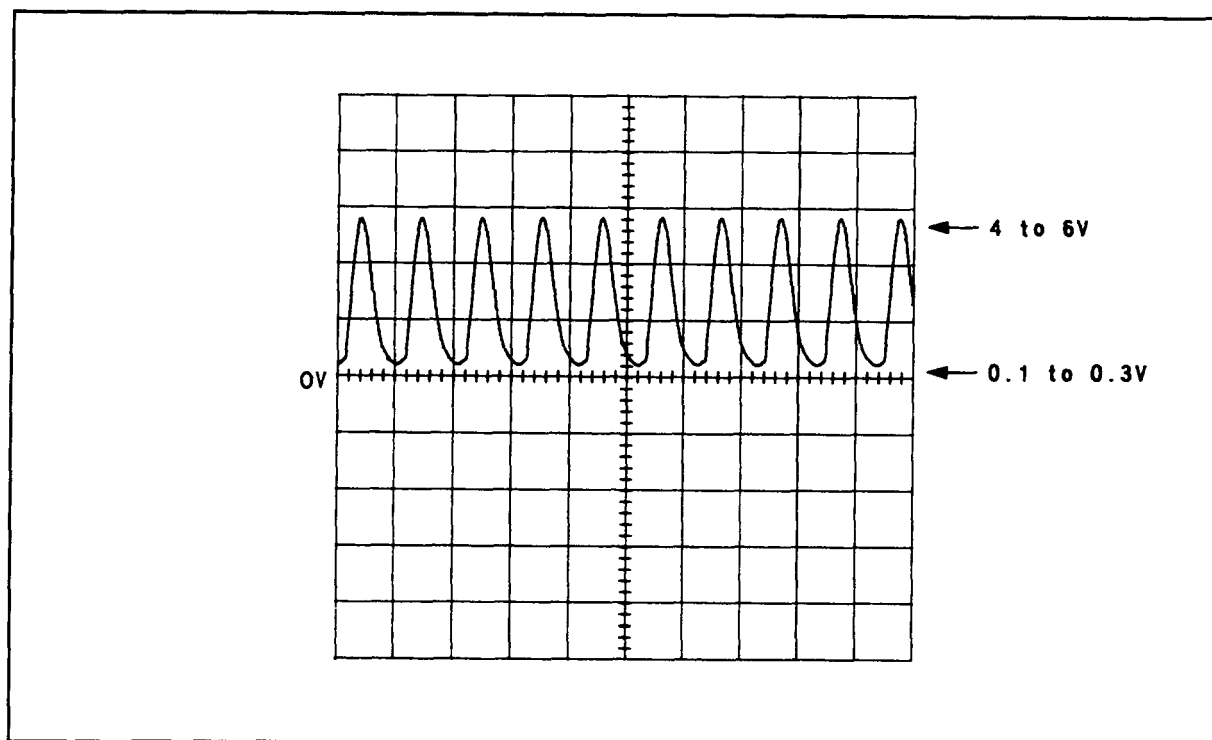

Figure 8F-48. Waveform for $\sqrt{2}$ Step 8
8. Set the oscilloscope to dc coupled and connect it to the collector of Q16. The 10.1 MHz waveform should be as in Figure 8F-48.